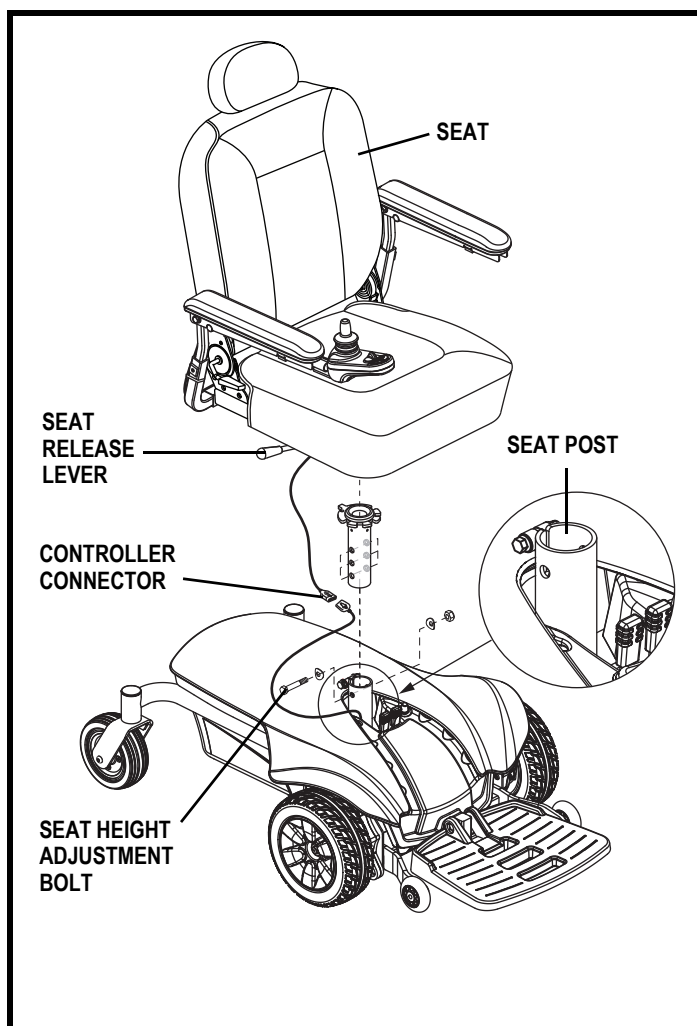

Figure 8. Seat Height Adjustment
3. Disconnect the controller connector from the power base. **See figure 8.**
4. Disengage the seat release lever. **See figure 8.**
6. Loosen the hardware at the rear of the seat post. **See figure 8.**
7. Remove the seat height adjustment bolt, washers, and nuts from the seat post. **See figure 8.**